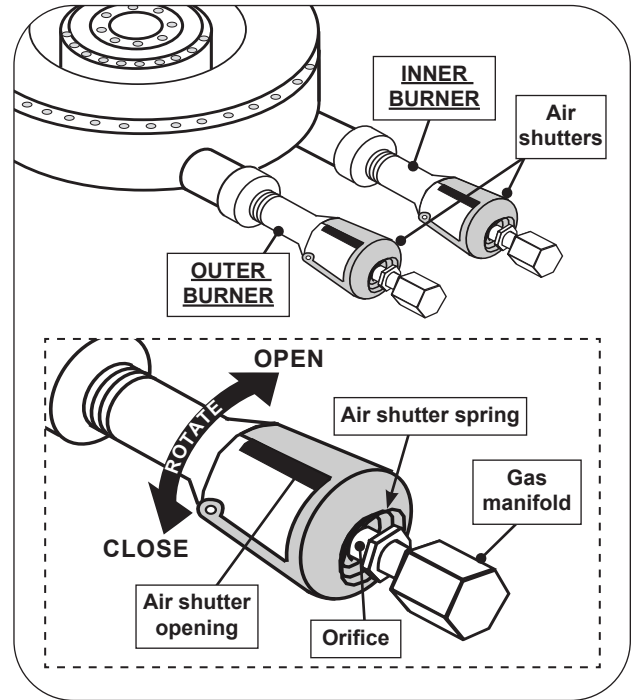

Fig. 42-1 Power burner air shutter adjustment detail
1. To adjust the air shutters, rotate the shutters to open or close them. See Fig. 42-1 for details.